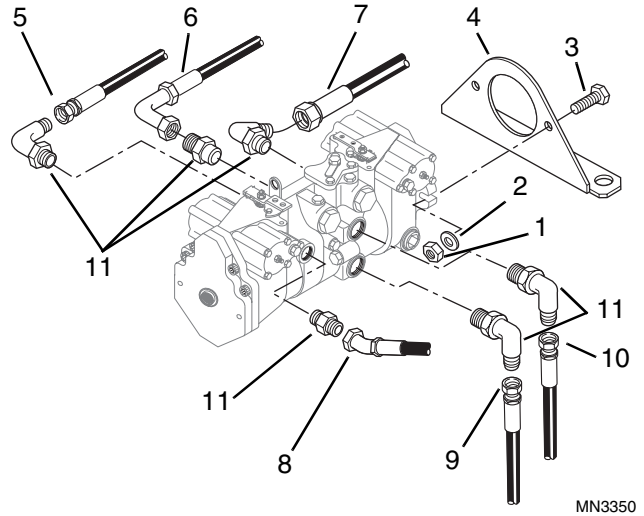

Figure 5-21 Control Pump Disassembly
12. Tag and remove all of the hydraulic hoses (Fig. 5-21, 5 - 10) that attach to the control pump assembly. Cap or plug all hydraulic hoses and fittings.
14. Note how the hydraulic fittings are oriented (Fig. 5-21, 11) and remove the fittings from the pump assembly (Refer to Section 5.9.2, "Hydraulic Components, Model 2000D/DX," or 5.9.3, "Hydraulic Components, Model 2300D/DX" for fitting identification).
17. Remove two locknuts (Fig. 5-21, 1), washers (2), and capscrews (3) that fasten the rear of the control pump assembly to the pump mount (4).
2. Fasten the rear of the control pump assembly to the pump mount (Fig. 5-21, 4) with two capscrews (3), washers (2), and new locknuts (1).
4. Install the fittings into the ports of the new control pump assembly (Fig. 5-21, 11) and orient them the same as they were before removal. Refer to Section 5.9.2, "Hydraulic Components, Model 2000D/DX," or 5.9.3, "Hydraulic Components, Model 2300D/DX" if the fitting orientation was NOT noted during disassembly. Torque all fittings (Refer to Section 2.8, "Torques").
5. Connect all the hydraulic hoses (Fig. 5-21) to the proper fittings.
- Connect the hydraulic hose (Fig. 5-21, 5) from the left travel motor "B" port to the elbow in the left travel pump "C" port.
- Connect the hydraulic hose (Fig. 5-21, 6) from the left travel motor "A" port to the straight fitting in the left travel pump "D" port.
- Connect the hydraulic hose (Fig. 5-21, 7) from the hydraulic reservoir to the elbow in the rear port on the right side of the control pump assembly.
- Connect the hydraulic hose (Fig. 5-21, 8) from the hydraulic drive oil filter to the straight fitting in the front port on the left side of the control pump assembly.
- Connect the hydraulic hose (Fig. 5-21, 9) from the right travel motor "A" port to the elbow in the right travel pump "A" port.
- Connect the hydraulic hose (Fig. 5-21, 10) from the right travel motor "B" port to the elbow in the right travel pump "B" port.